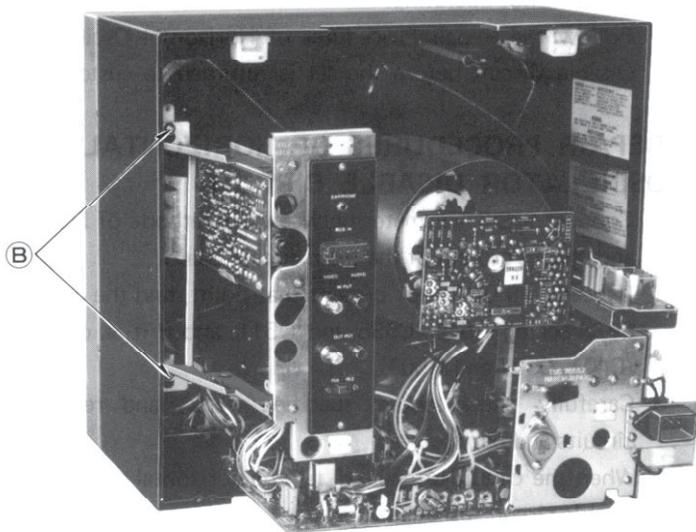

Figure 3
1. Loosen 2 (B) screws shown in figure 3.